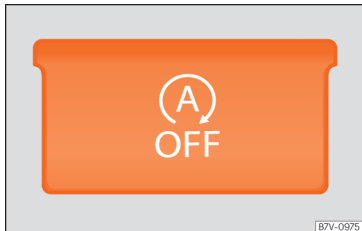

**Fig. 233** Detailed view of the centre console: Start-stop operation button.
- To manually switch on/off the Start-Stop system, press the  button » **Fig. 233**.